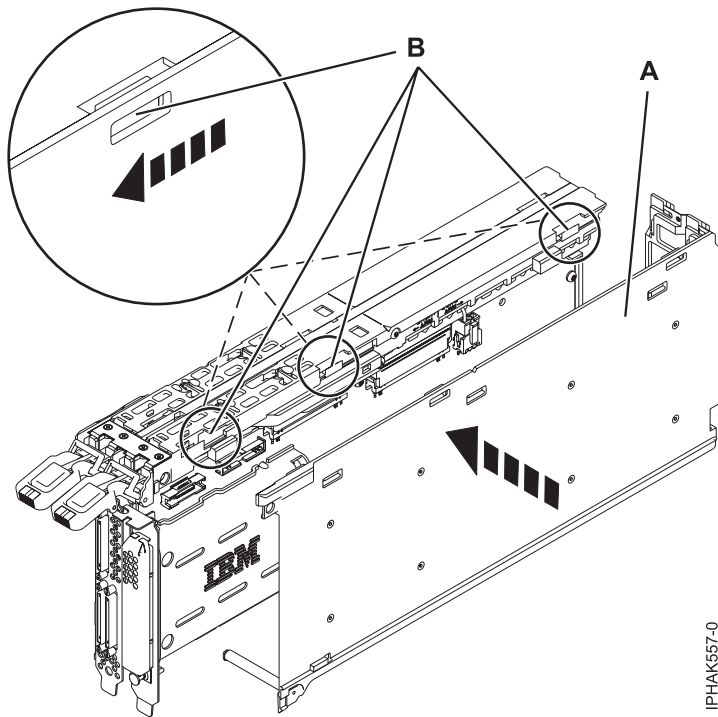

Figure 58. Installing the cover
- Install the cover: See Figure 58 on page 74.